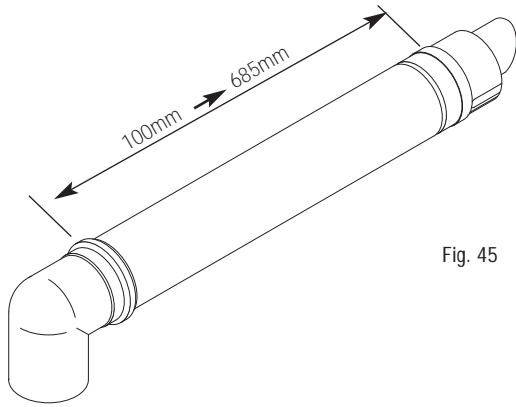

Fig. 45
1. The standard flue is suitable for lengths between 100mm minimum and 685mm maximum, as measured from the edge of the flue elbow outlet to the joint between the terminal and air duct (Fig. 45).